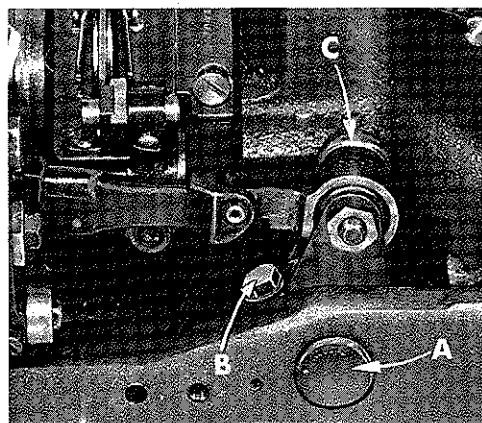

Fig. 6
Insert the looper in the looper rocker and turn the handwheel in operating direction until the point of the looper, moving to the left, is even with the left side of the right needle. Note the height of the eye of the needle with respect to the looper point, then turn the handwheel in reverse direction until the looper point again moves to the left and is even with the left side of the right needle. If the motions synchronize, the height of the eye of the needle with respect to the looper point will be the same. A variation of .005 inch (.13 mm) is allowable. If the distance from the eye of the needle to the point of the looper is greatest when the handwheel is turned in the operating direction, move the looper drive shaft synchronizing stud (A, Fig. 6) to the rear. Moving it in the opposite direction acts the reverse.
To move the looper drive shaft synchronizing stud to the rear (away from operator), loosen the clamp screw (B, Fig. 6) in the looper drive lever (C). A light tap with a small hammer, directly on the stud, is all that is required. To move stud forward (towards operator), remove the cloth plate, throat plate support, oil reservoir top cover and oil reservoir back cover. A light tap on the looper drive lever rocker shaft, toward the operator is all that is required. Then, using the looper drive lever